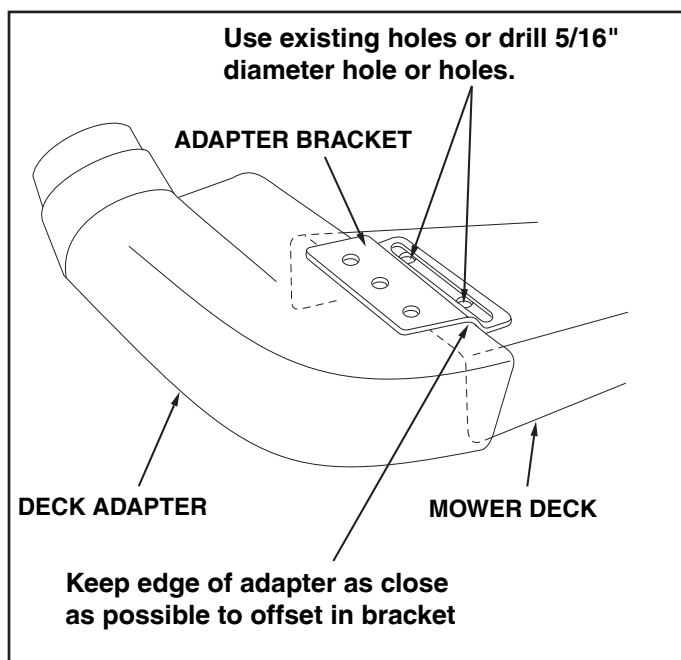

FIGURE 15
- Holding the adapter bracket and the deck adapter together, position the deck adapter on the mower deck. Keeping the edge of deck adapter as close as possible to the offset in the adapter bracket, see if the slot in the adapter bracket can be aligned with one or two of the deflector holes in your mower deck's discharge opening. If the bracket can not be located correctly using existing holes, it will be necessary to drill one or two 5/16" diameter holes in the deck. See figure 15.